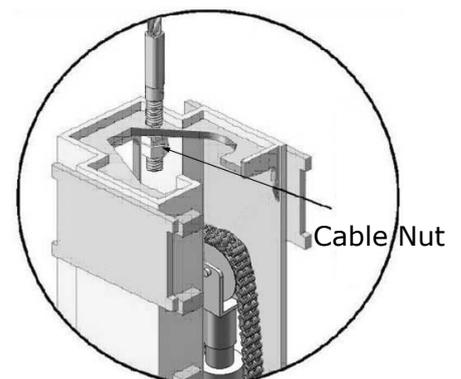

Fig. 32
1. Adjust synchronous cable (See Fig. 32)